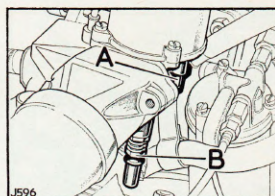

Fig. 10 Carburettor mixture adjustment screw and lift pin
9. Check the mixture on each carburettor separately by lifting the carburettor piston approximately $\frac{1}{8}$ in. (1 mm) by means of the lift pin (A) Fig. 10, situated on the front of the carburettor body. There is approximately $\frac{1}{16}$ in. (4.5 mm) free movement of the lift pin before it contacts the piston.
10. If the engine speeds up immediately the mixture is too rich and the mixture adjustment nut (B) Fig. 10, must be screwed up, thus weakening the mixture; if the engine speed decreases immediately the mixture is too weak and the mixture adjustment nut should be unscrewed to enrich the mixture. In either case turn one flat at a time and check after each adjustment. If the engine speed momentarily increases very slightly the adjustment is correct.